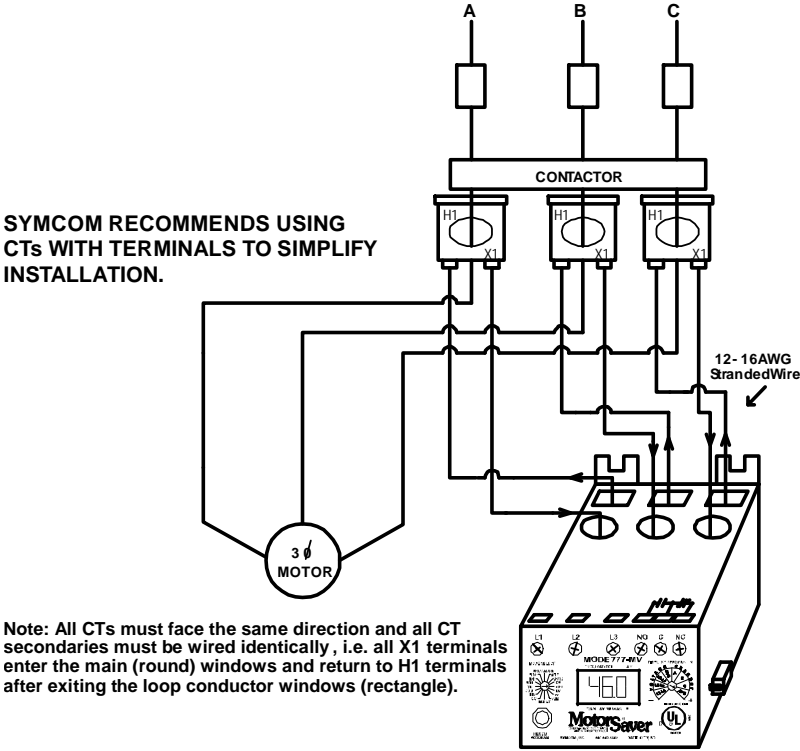

Figure 1. Typical Wiring Diagram for CTs
2. External current transformers (CTs) must be used with the 777-MV (see Figure 1). If the motor full load amps is 12.5–25A, the CT secondaries must pass through the 777-MV twice. Insert the CT secondaries down through the round holes, back up through the rectangular holes, and back down the round holes on the 777-MV.